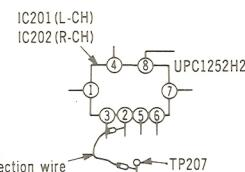

Fig. 17
<p>4-2 Operation check of VCA circuit and De-emphasis circuit</p> <ol style="list-style-type: none"> <li>The procedure is the same as 1 for the above 4-1 VCA circuit and Pre-emphasis circuit.</li> <li>Short pin ② of IC201 (L-CH) and IC202 (R-CH) to TP207 (ground) as shown in fig. 17.</li> <li>Set the noise reduction selector to disc position.</li> <li>Adjust ATT so that the signal level at TP201 (L-CH) and TP202 (R-CH) is 300 mV.</li> <li>Make sure that the output signals at TP203 (L-CH) and TP204 (R-CH) are sinusoidal. (The operation of VCA can then be checked.)</li> <li>Change the frequency of input signal to 5 kHz and make sure that the output signal level at TP203 (L-CH) and TP204 (R-CH) is decreased by about 12 dB. (The operation of the De-emphasis circuit can then be checked.)</li> </ol>